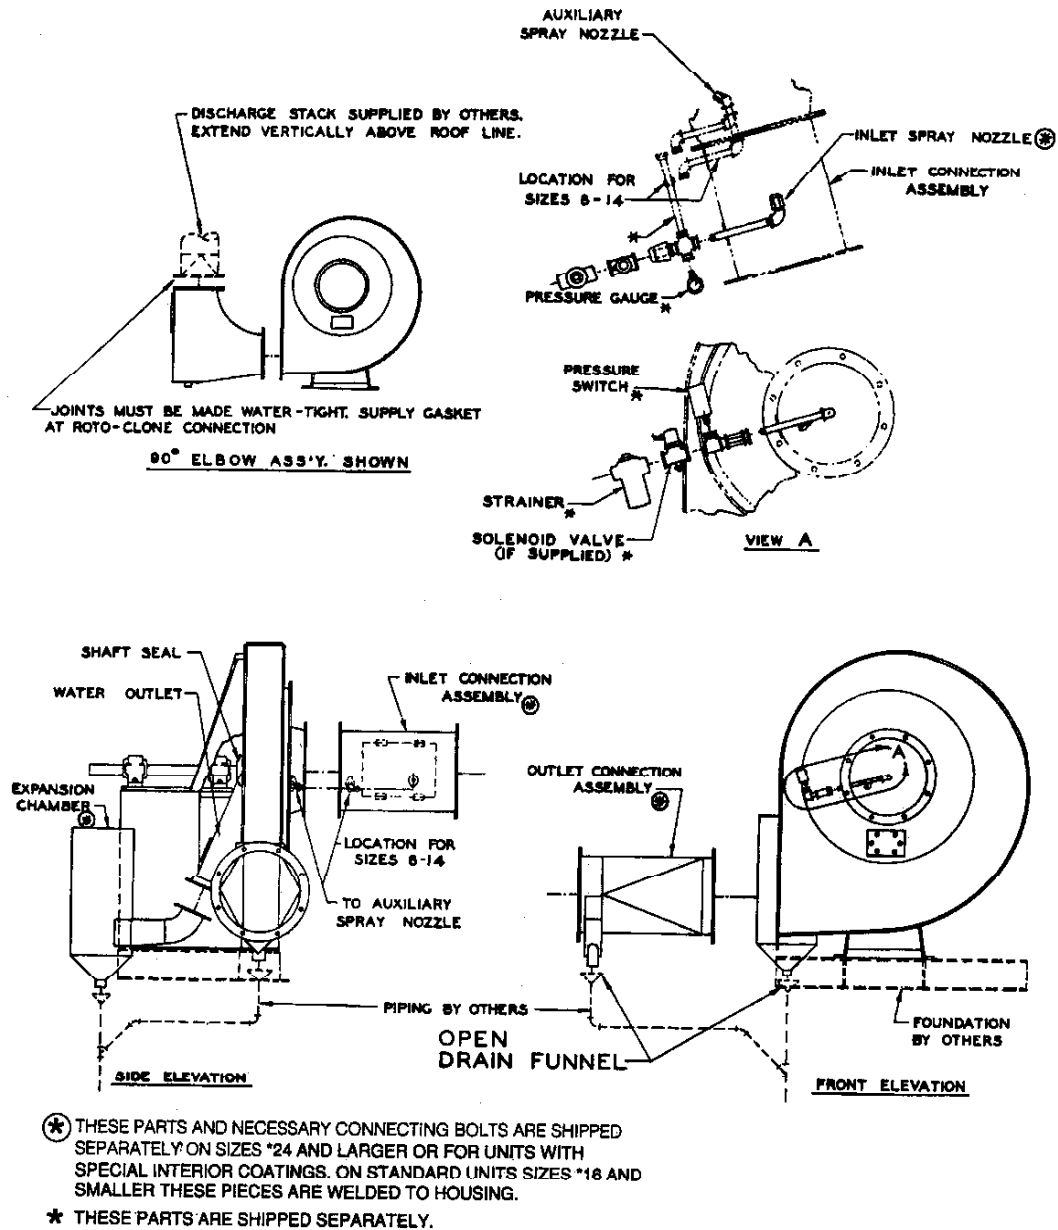

Fig.1 - Installation Diagram
Refer to Installation Diagram - Fig. 1. Assembly of the RotoClone should proceed in the following manner sealing all joints using gaskets and bolts included with shipment. Some RotoClones, size 16 and smaller, have inlet, outlet and expansion chamber welded to housing in lieu of flanged and bolted connections.
RotoClone piping may be shipped loose to prevent damage during shipping. Connect the two lines from the "cross" to the two connections on the RotoClone inlet. The third outlet from the cross connects to the pressure gauge supplied and the front leg should be connected to the water supply line. Supply line should be 3/4" size for RotoClones through size 14; 1" size for size 16 RotoClones and larger and designed for supply line water pressures. Connect the water supply line to strainer located near RotoClone inlet, using pipe at least as large as the strainer connection. The Solenoid Valve, should be installed between the strainer and cross, and should be wired in parallel with the RotoClone motor per the wiring diagram supplied with the unit. Solenoid valves should always be installed with the coil in the top, vertical position. Finished piping should be per Fig. 1. It is recommended that a manual shut-off valve be installed in the supply line, to be able to do maintenance on the solenoid valve. The water connection must be capable of supplying the volume listed in Table I to the spray nozzles at 40 to 60 psi pressure.
A switch is supplied with the RotoClone which will stop the RotoClone motor automatically when water supply fails or water pressure falls below 28 psi. This pressure switch should be mounted in the water supply line as shown in Fig. 1 and wired as shown in the wiring diagram supplied with the unit. (Note that this switch is not supplied, when "Range Hood" controls are supplied - see Section 9.2 for Range Hood controls.)
Nozzles are installed at the factory. Connect the nozzle piping to the fittings provided. From the strainer the main pipe leads to the conical spray nozzle fitted in the RotoClone inlet connection. The small branch line leads to auxiliary flat spray nozzle within the RotoClone housing. Refer to installation diagram, Fig.1; flat spray should be in the 7 o'clock position with "fan" parallel to the blades of the impeller.
The expansion chamber and outlet connection drains should discharge to an open funnel so if drain piping plugs up water will run over funnel and not back up in RotoClone which may cause damage. See Fig. 1. Piping from funnel should be equal or larger in size than expansion chamber nipple. This connection can run to (1) sewer or drain line, (2) process, (3) settling tank, or (4) other locations dependent on local conditions/regulations and the amount of material collected by the RotoClone.
The drain from the outlet connection, see Fig. 1, should be connected to the sludge pipe from expansion chamber or directly to a drain. Full size piping should be used. Refer to installation diagram Fig. 1. Note that a funnel is shown under the drain. This provides easy access to the drain if an obstruction should occur. A plugged drain can cause the water level in the collector to rise into the impeller and the impeller tips will break.